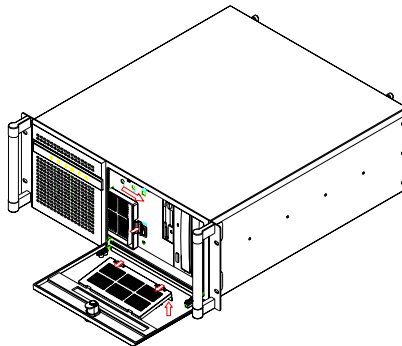

Figure 3.6: Replacing the filters
3. Clean the filters with a soft brush or wash the dust away from the filter with water and then dry it. (see *Figure 3.6*)